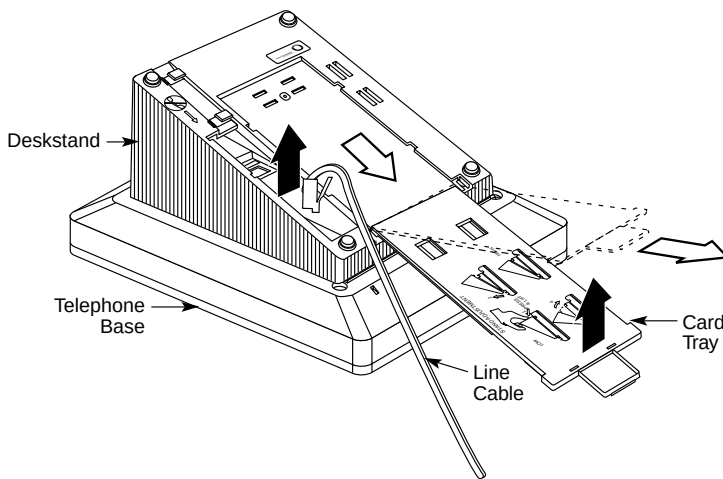

Figure 3-2. Removing the User Card Tray and Line Cable
- **1. Place the telephone face down on a flat surface; remove the user card tray and line cable from the bottom of the deskstand. See Figure 3-2.**